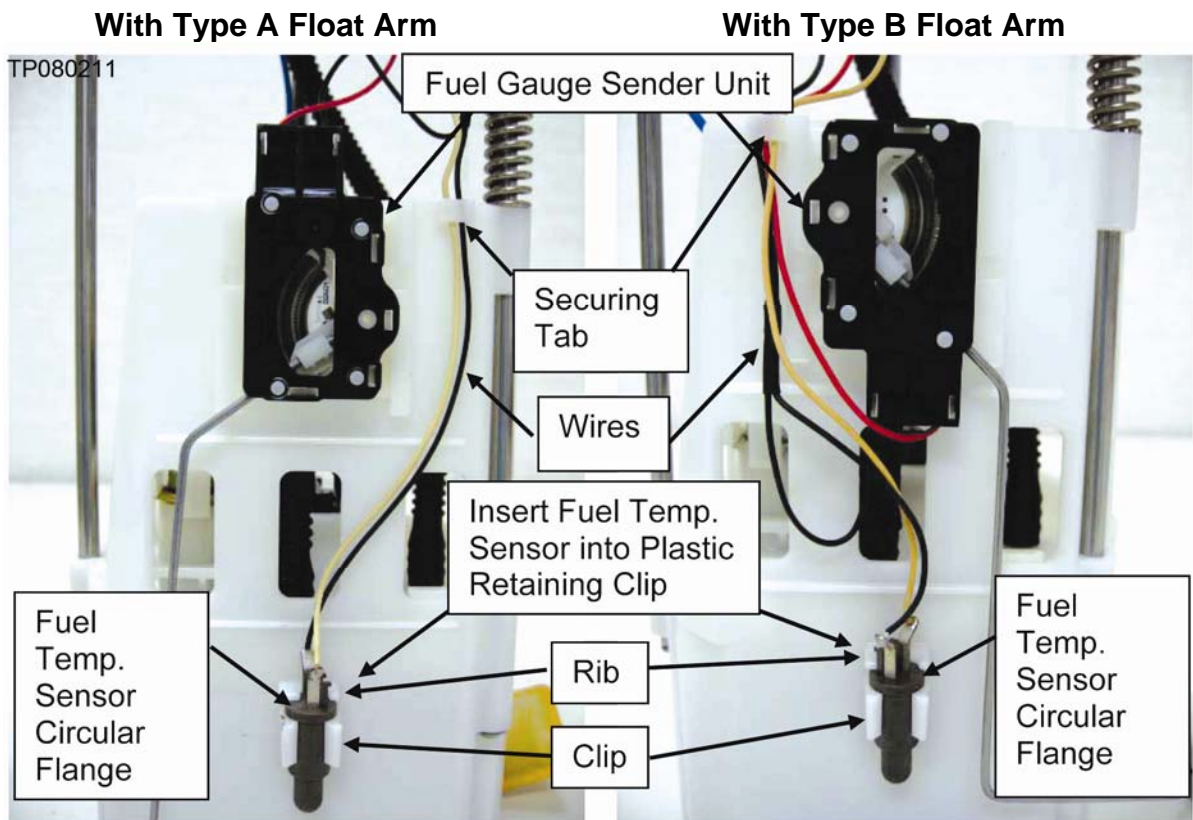

Figure 5
3. Install the new Fuel Gauge Sender Unit as follows (see Figure 5):